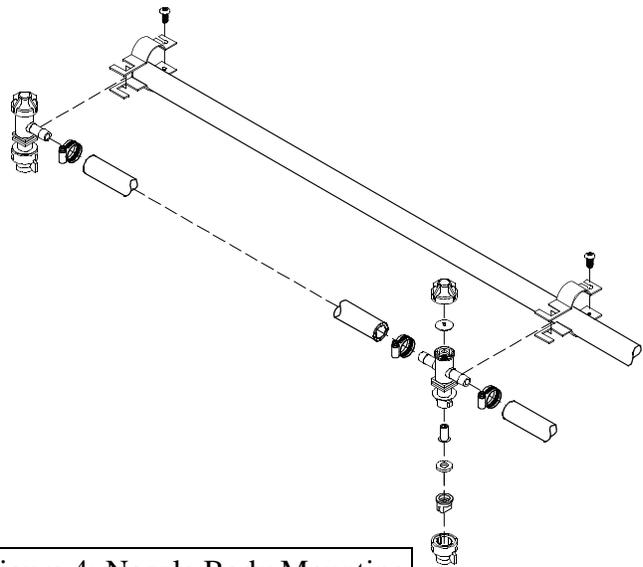

Figure 4: Nozzle Body Mounting
3. Connect the vinyl hose to the nozzle body with an included hose clamp. The spray nozzles, nozzle body caps, and tip strainers are all installed into the nozzle body. See Figure 4 on page 5 for a breakdown of the complete nozzle body.
4. The recommended technique for mounting the nozzle body(s) is on a piece of round or square tubing with a boom clamp. Your applicator kit includes two 1/2" round boom clamps. See the Accessories section on page 17 for ordering different size round or square boom clamps. See Figure 4 on page 5 for a diagram of how the spray nozzle bodies are mounted on tubing.
5. Depending on the size of the application area on the piece of equipment, you will need to use one or two spray nozzles. Begin by installing the nozzle body elbow and test to see if the spray pattern covers the entire application area. If two spray nozzle bodies are needed for complete coverage, install the nozzle body tee first and the nozzle body elbow secondly. See Figure 4 on page 5.